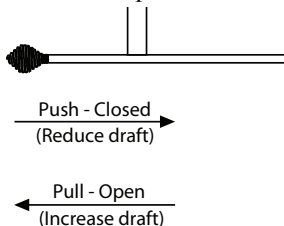

Figure 15. Primary and air wash system draft controls.
The primary and air wash systems are controlled by the damper rod located on the left side of your stove (as you are facing the unit). The damper rod will allow you to bring in more air to burn the wood faster or to reduce the amount of air to burn the wood slower. Pulling the damper rod out will allow you to increase the draft in your stove. Pushing the damper rod in will allow you to decrease the draft in your stove. Figure 15 shows you how the damper controls are used.
3. Remove the back cover plate on the **KOZI** Wood Stove as shown in Figure 15.